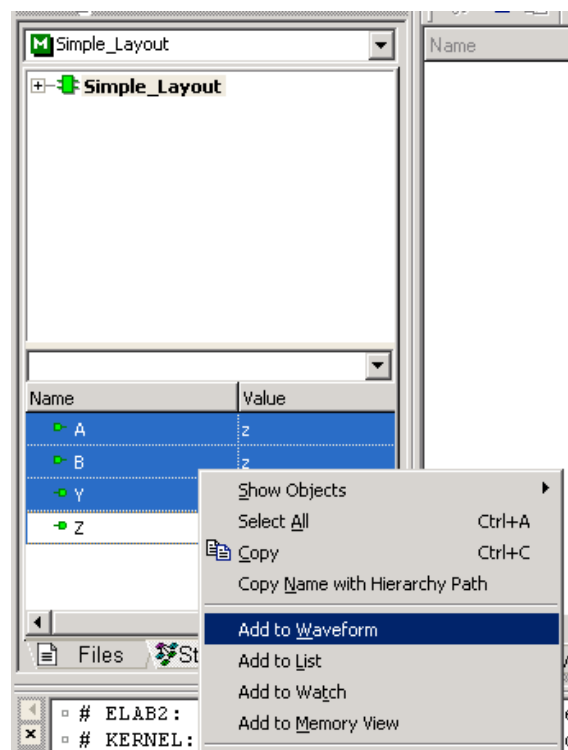

Figure 27
8. Add the signals to the waveform by dragging the signals one by one into the left side of the waveform. A faster method of adding signals to the waveform is to select the signals using the Shift or Ctrl keys. Now you may drag them as described above into the waveform. You can also right-click on a selected signal, and click the Add to waveform option in the pop-up menu as shown in Figure 27.